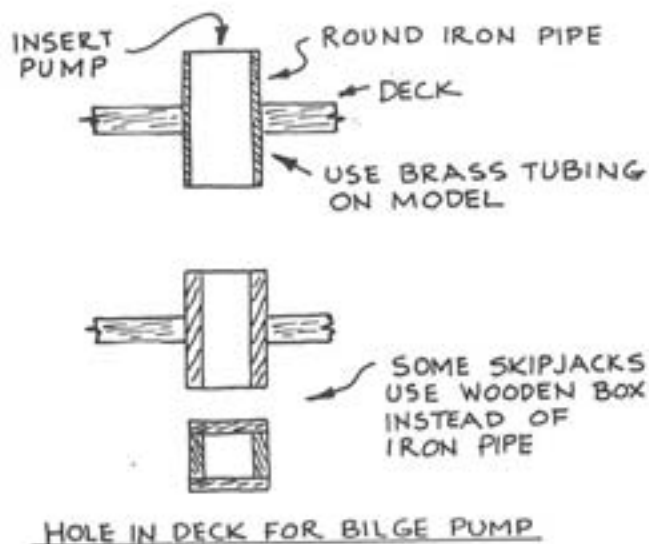

FIG 42
**Bilge pump pipes** — Use brass tubing inserted in a hole in the deck according to Figure 42. On some skipjacks a square wooden box is used instead of the iron pipe. An old-style galvanized hand pump fits through the openings to pump the bilges. While these are usually stowed below, Figure 43 shows what they look like.